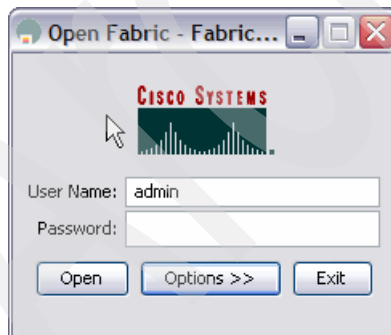

Figure 11-5 Fabric Manager initial logon window
3. When the installation completes, you should see the Fabric Manager login window, as shown in Figure 11-5.